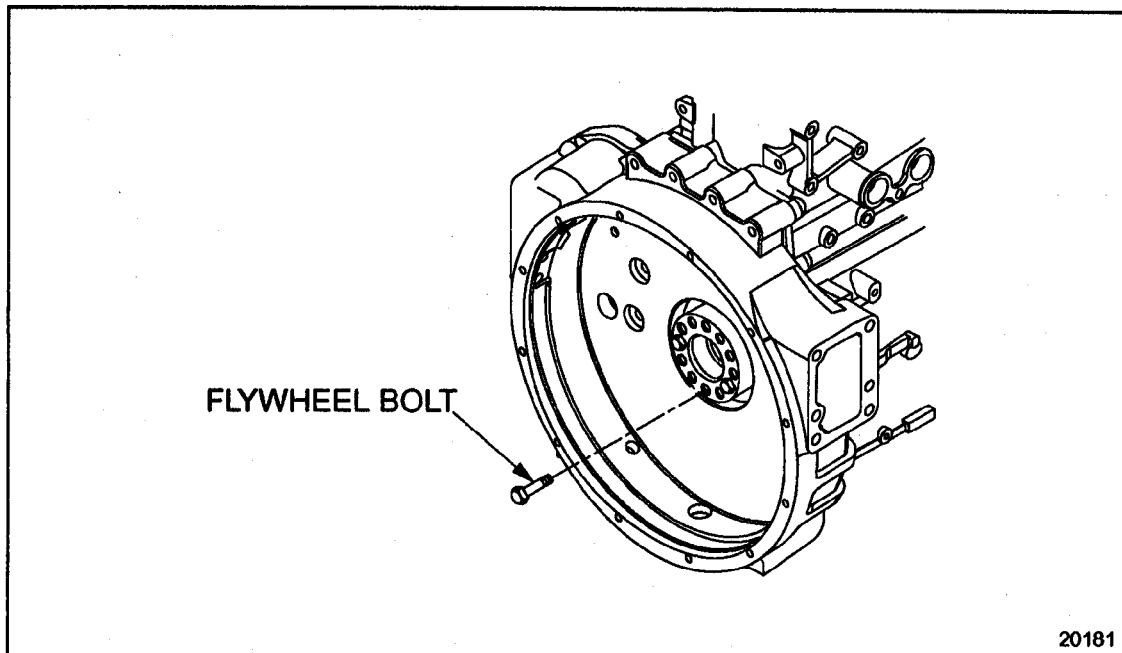

Figure 1-226 Flywheel Bolt Preparation
6. Apply International Compound #2® (or equivalent) to the threads and to the bolt head contact area (underside) of the remaining bolts. The bolt threads must be completely filled with International Compound #2® (or equivalent). Any excess must be wiped off. See Figure 1-226.